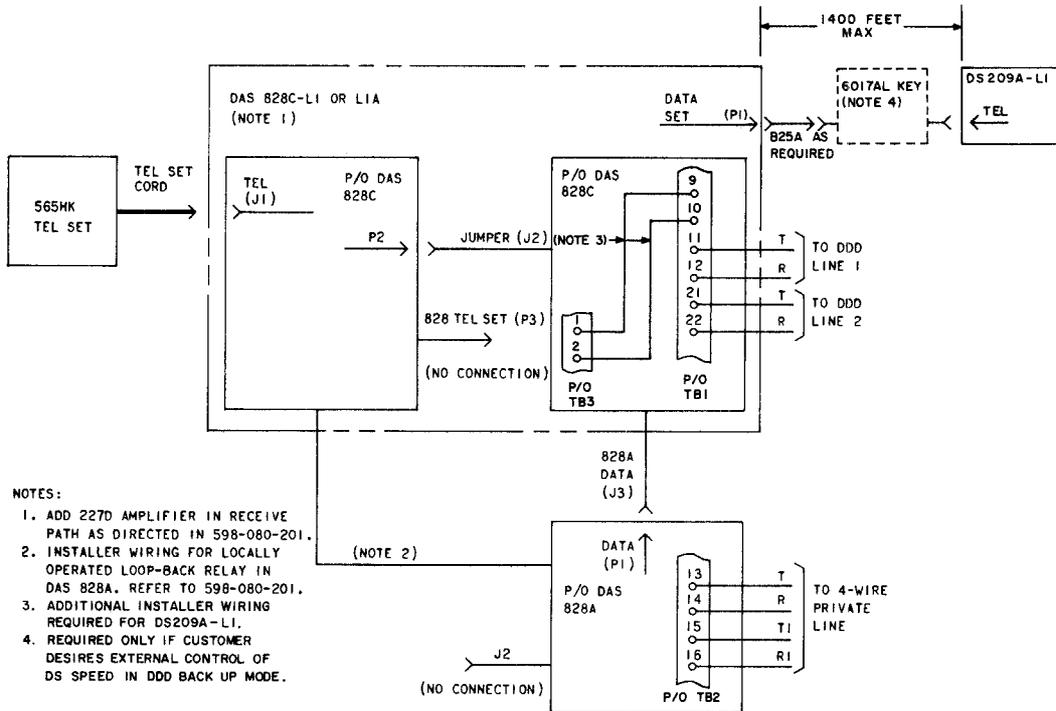

Fig. 10—Data Set 209A-L1 Used on 4-Wire Private Line With Alternate DDD Backup Using DAS 828A-Type and 828C—Data Only
**3.05** Connections for DAS 828C to provide alternate switched network backup are shown in Fig. 10 and 11. The connection for data-only is shown in Fig. 10, while the connection for data/voice is shown in Fig. 11. Additional installer wiring as shown is required to provide a dial backup indication to the DS 209A-L1.